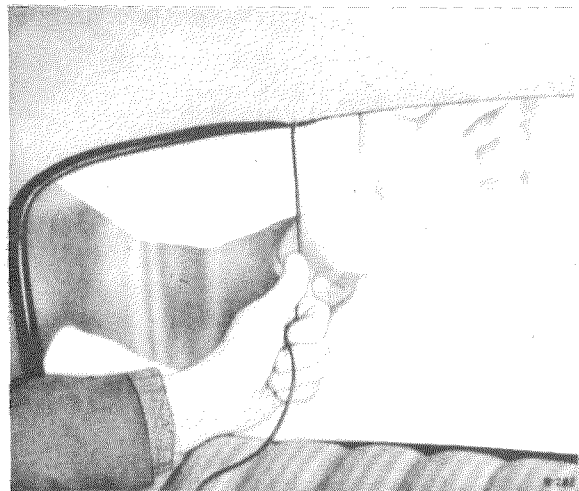

Fig. 67 — 3/2
7. Install the back window glass together with rubber molding into the window opening from the outside and position it accurately, since later adjustments are not possible. Then press it home under slight pressure, do not strike it. Simultaneously, the lip of the rubber molding should be lifted by a second person over the sheet metal edge of the back window opening from the inside by carefully pulling out the cable or the cord. Cable or cord should always be pulled out parallel to the glass in order to prevent damage to the rubber lip (Fig. 67 — 3/2).